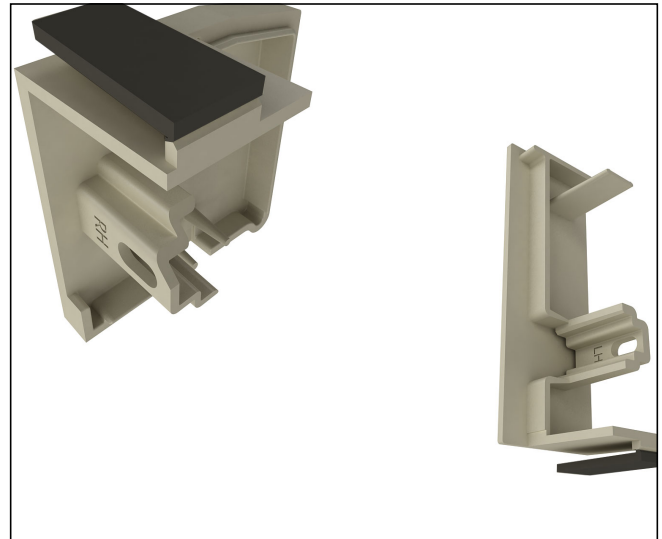

Figure 42
1. Break off shaded area on both left hand and right hand sill end caps and flat end caps. See figure 42.